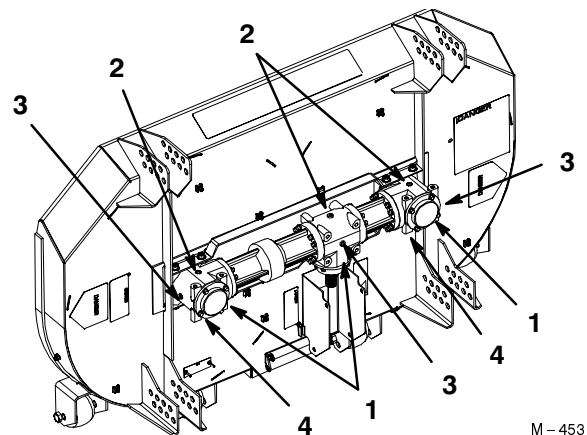

Figure 6
5. With deck raised, remove plug on the bottom side of the gearbox. Let fluid fully drain into a pan. (Fig. 6).
6. Reinstall the bottom plug into the gearbox using pipe sealant on threads (Fig. 6).
7. Remove the top plug to fill gearbox (Fig. 6).
9. Reinstall the top plug into the gearbox using pipe sealant (Fig. 6).
3. Remove plug on the side of the gearbox. The fluid level must be up to side hole in gearbox (Fig. 6).
4. If needed, fill automatic transmission fluid (Dexron® III) into top hole until it runs out the side hole in gearbox. Gearbox is full when fluid runs out the side hole (Fig. 6).
5. Reinstall the top and side plugs into gearbox using pipe sealant on threads (Fig. 6).